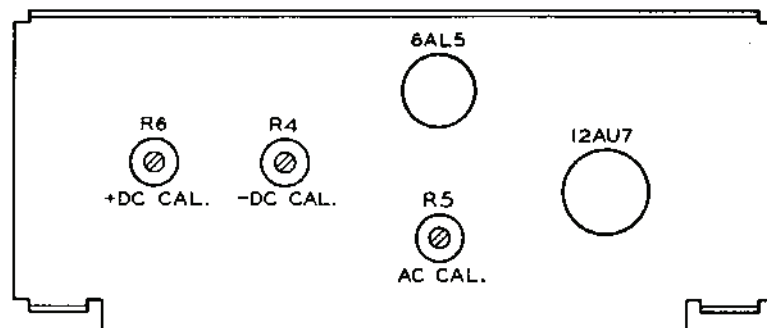

Figure 9. Locations of calibrating controls
The schematic diagram of the WV-98A is shown in Figure 6. Locations of calibration controls are shown in Figure 9. If it becomes necessary to replace any of the component parts, only RCA replacement parts or their equivalents should be used. Replacement parts should be ordered from a local RCA tube and parts distributor and the code and serial numbers of the instrument, as well as the stock number of the replacement parts, should be specified in the order. Stock numbers and descriptions should be obtained from the Replacement Parts List on pages 20 and 21.
7. With a screw driver, adjust the "+DC CAL" potentiometer R6 to bring the pointer exactly to the 50-volt mark on the scale. (See Figure 9 for location of calibration controls.)
6. Apply 50 volts, 60 cps between the ground lead and the tip of the probe. The meter reading should be within  $\pm 3\%$ . If the accuracy is not within this figure, adjust the AC CAL control, R5, (See Figure 9 for locations of calibrating controls) to give full scale deflection of the meter pointer.